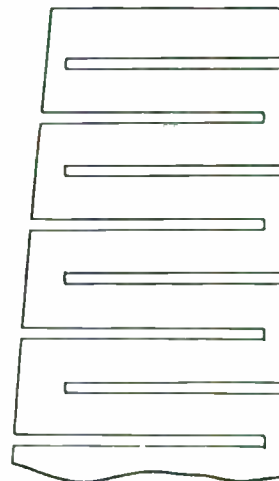
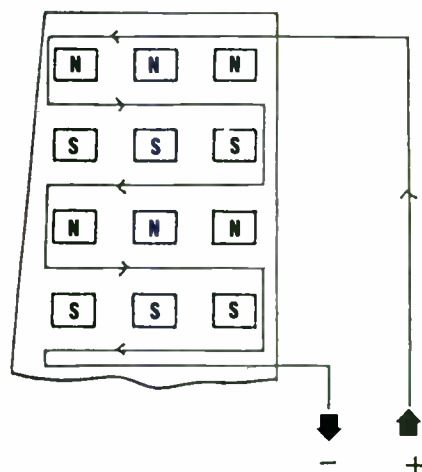

FIGURE 9: Alternative conductor 1.
FIGURE 10: Alternative conductor 2.
3. Alternative conductors. The simplest way to make the woofer conductor is one conductor for each row of magnets (*Fig. 9*). The split between the magnets should be placed above the middle of the magnets (*Fig. 10*). Think it through. The pattern is easily made with alutape and 42 by 7.7 by 9mm magnets. If you use larger (40 by 20 by 10mm) magnets, place them closer to-